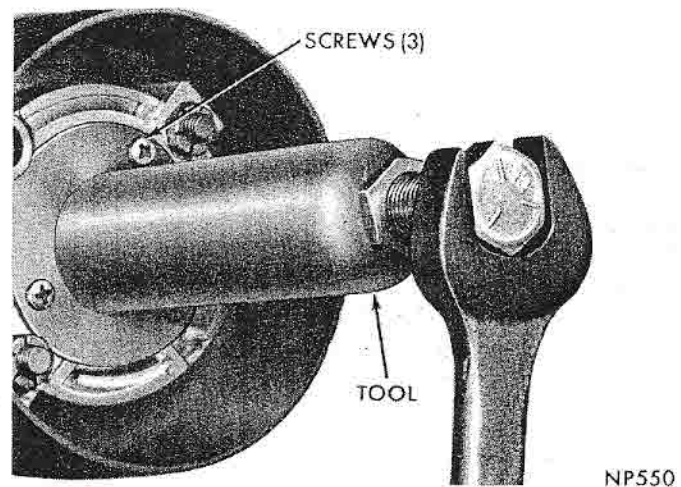

Fig. 3—Removing Steering Shaft from Upper Bearing
(5) Install steering shaft remover C-4044 (Fig. 3), and press shaft out of upper bearing. Slide steering shaft assembly out of column. **Do not bump or hammer on steering shaft to remove.**